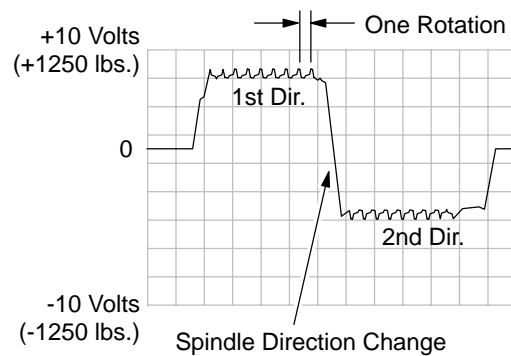

Figure 3-10 Lateral Force Variation
- Once the tire is inflated, loaded and rotating, the lateral force variation becomes periodic. See Figure 3-10.